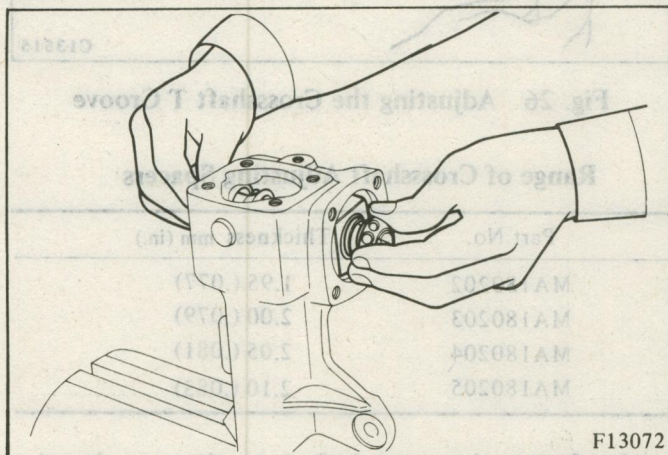

Fig. 22 Removing the Mainshaft
(6) Gently pull out the mainshaft and ball nut assembly and bearings. (Fig. 22)